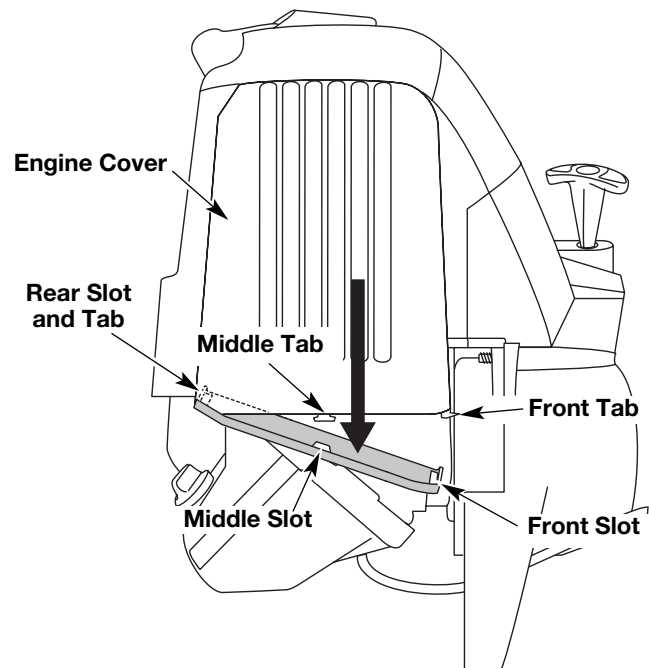

Fig. 33
1. Remove the muffler cover by pressing down on it, separating it from the engine cover. Using a flat blade screwdriver, disengage the middle and front tabs and slots first. The cover will hinge off from the rear tab (Fig. 33).
- Remove the engine cover (Fig. 33).
- Reinstall the muffler cover. Slip the rear tab on the muffler cover into the engine cover rear slot. Then slide the remaining slots into the tabs until they snap into place (Fig. 33).